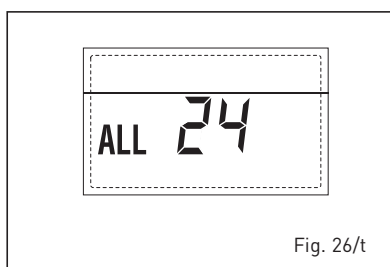

Fig. 26/t
– **ANOMALIA GUASTO SONDA BOLLITORE SOLARE S2 "ALL 25" (fig. 26/u)**